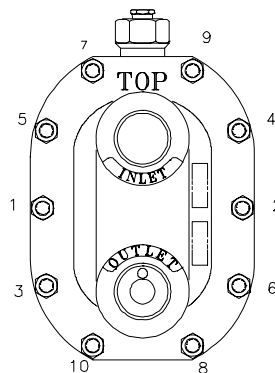

Figure 13.
- A) After inspection and repair, clean the gasket surfaces and place a new gasket between the body and the cap. Replace the body carefully to avoid damaging the internal parts. Install and tighten the ten bolts. (See Figure 13 for bolt tightening sequence.)